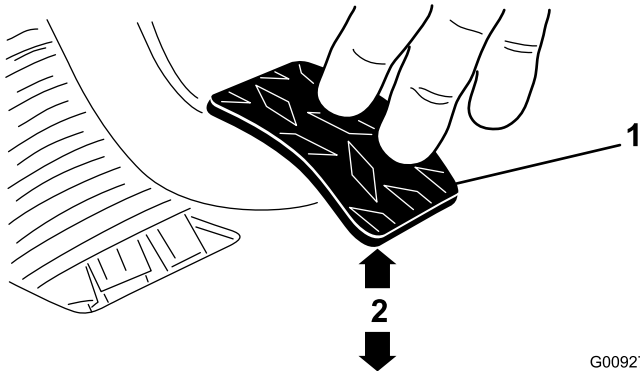

Figure 70
3. Adjust the jam nuts or ball joint until the back, rear edge of the clutch pedal is 9.5 ± 0.3 cm (3.75 ± 0.12 inch) from the top of the floor plate diamond pattern, when an 1.8 kg (4 lb) force is applied to the pedal (Figure 70).